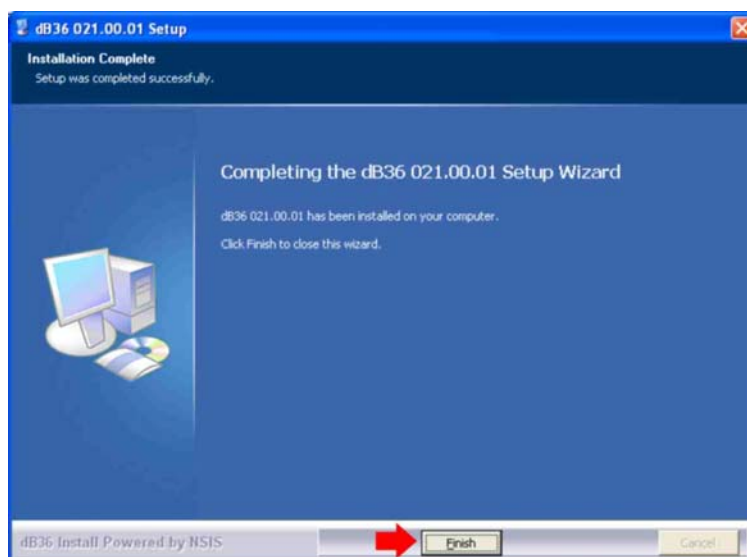

Figure 8 Installation Finished Screen
15. The screen confirming a successful installation is displayed. To acknowledge the installation, press **Finish** (Refer to Figure 8).